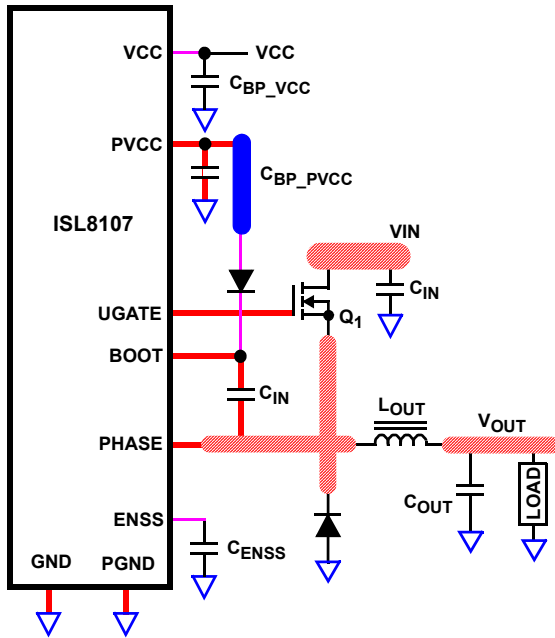

**FIGURE 16. ASYMPTOTIC BODE PLOT OF CONVERTER GAIN**
Figure 16 shows an asymptotic plot of the DC/DC converter's gain vs frequency. The actual Modulator Gain has a high gain peak dependent on the quality factor (Q) of the output filter, which is not shown. Using the previous guidelines should yield a compensation gain similar to the curve plotted. The open loop error amplifier gain bounds the compensation gain. Check the compensation gain at  $F_{P2}$  against the capabilities of the error amplifier. The loop gain,  $G_{LP}$  is constructed on the log-log graph of Figure 16 by adding the modulator gain,  $G_{vd}$  (in dB), to the feedback compensation gain,  $G_{COMP}$  (in dB). This is equivalent to multiplying the modulator transfer function and the compensation transfer function and then plotting the resulting gain.